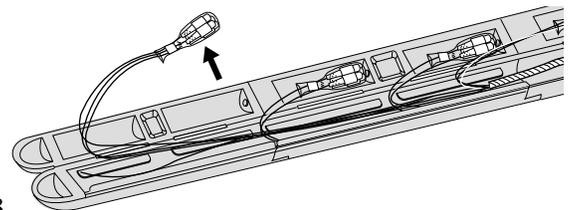

Figure 13
a) Carefully remove the bagged connectors from the storage compartments. Carefully unfold the legs for each bag and remove the legs from beneath the routing guides (Figure 13).